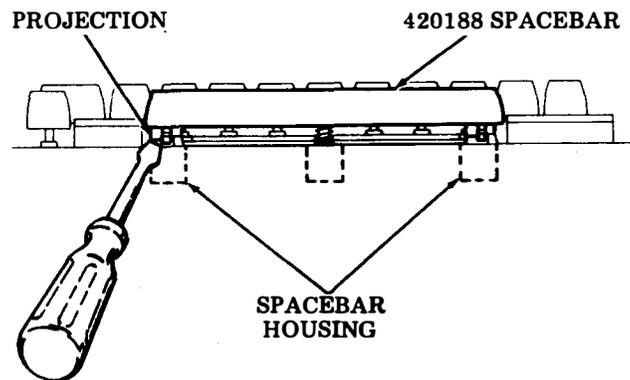

Fig. 5—Spacebar Removal
- (a) Remove spacebar (See Fig. 5).